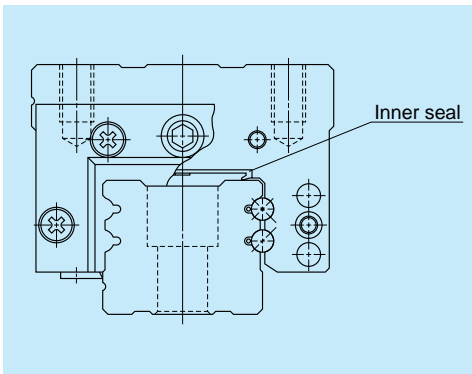

Fig. II-5-9 Inner seal when installed
- The end seal installed on both ends of the ball slide cannot arrest entire foreign matters, though the missed amount is negligible. An inner seal protects the ball contact surface from such foreign matters which entered inside the ball slide (Fig. II-5.9).